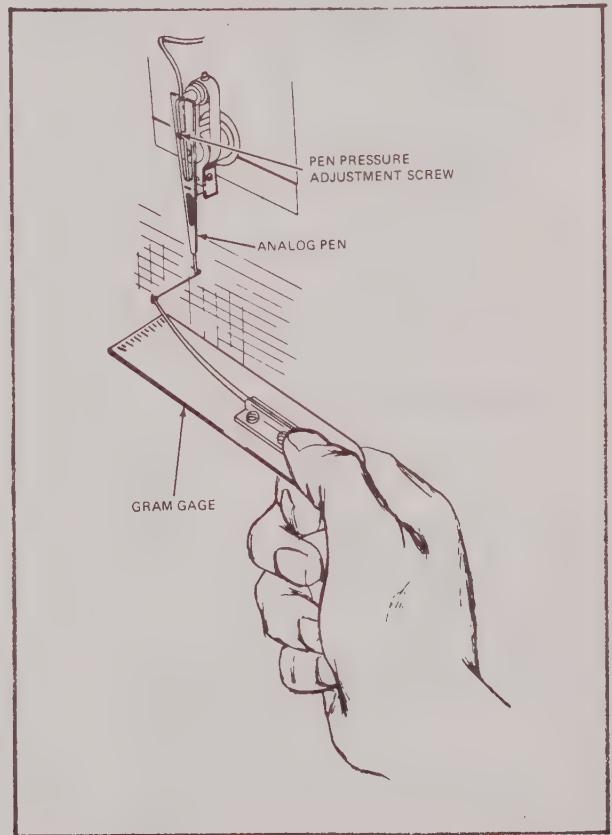

**FIGURE 6-6. PEN PRESSURE MEASUREMENT**
3. Place gram gage hook under pen as close as possible to tip. Form a right angle to pen shaft with hook (Figure 6-6).